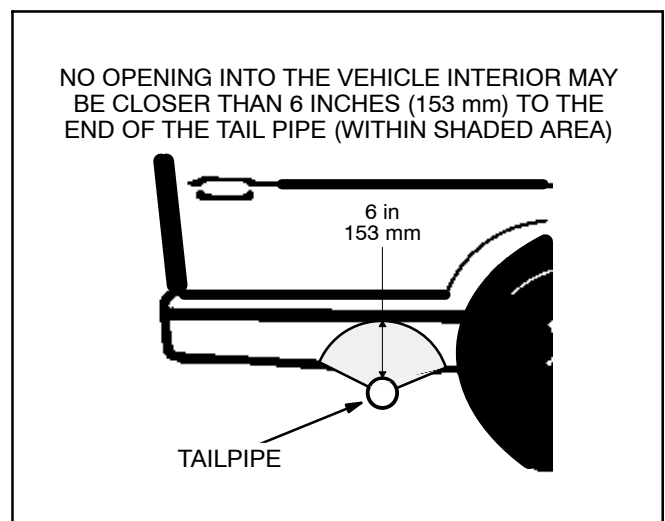
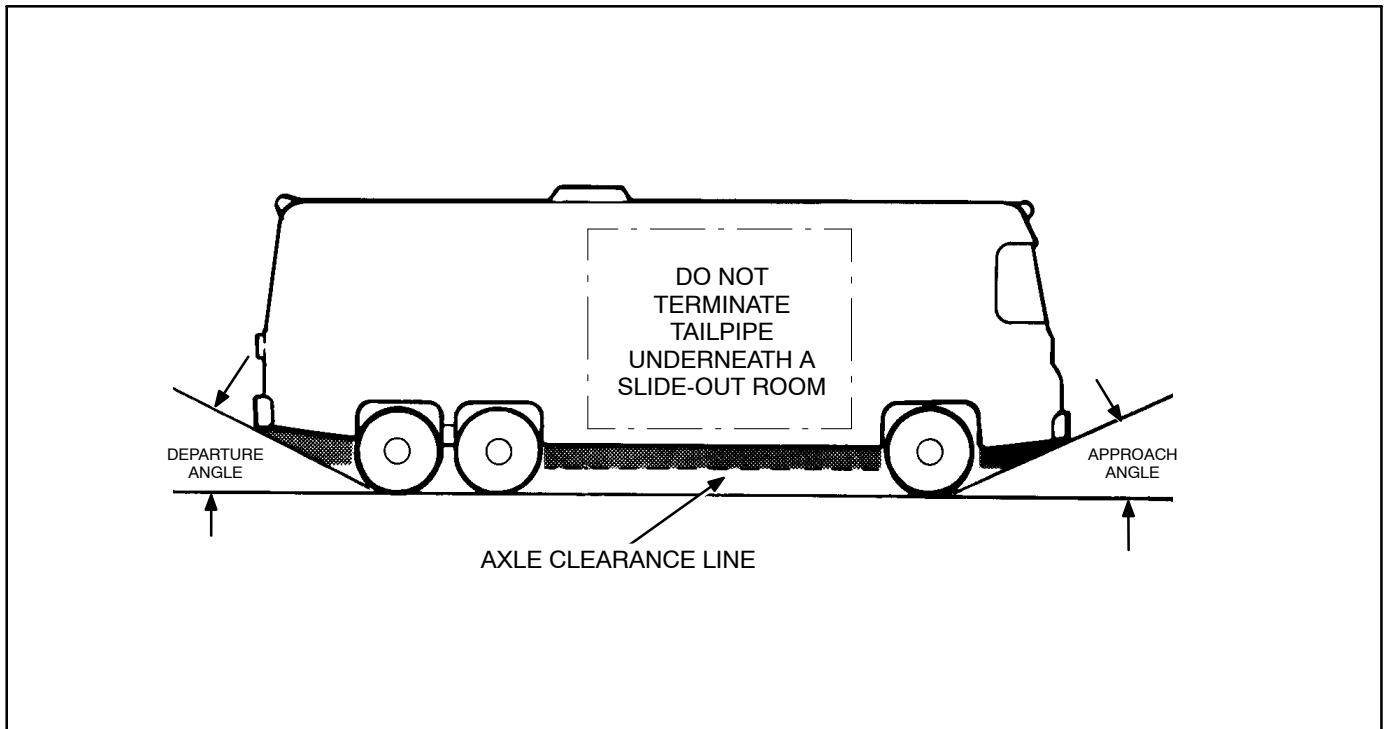

FIGURE 3-4. MINIMUM DISTANCES TO OPENINGS
FIGURE 3-5. APPROACH AND DEPARTURE ANGLES AND AXLE CLEARANCE LINE
⚠ WARNING ***EXHAUST GAS IS DEADLY! To keep exhaust gases from entering the vehicle do not terminate the exhaust tailpipe underneath the vehicle or closer than specified to openings into the vehicle (Figure 3-4) or route it such that it is likely to be damaged (Figure 3-5). Use approved materials and parts only.***
Note: Do not terminate the tailpipe underneath a slide-out room (Figure 3-5), unless the bottom of the slide-out, including skirts and moldings, is at least 3 feet above the end of the tailpipe.
9. Do not terminate the tailpipe such that it is closer than 6 inches (153 mm) to any opening into the vehicle interior (door, window, vent). See Figure 3-4.
10. Route the tailpipe such that it will not likely be struck when the vehicle is moving. At least keep it out of the approach and departure angles of the vehicle and above the axle clearance line (Figure 3-5).